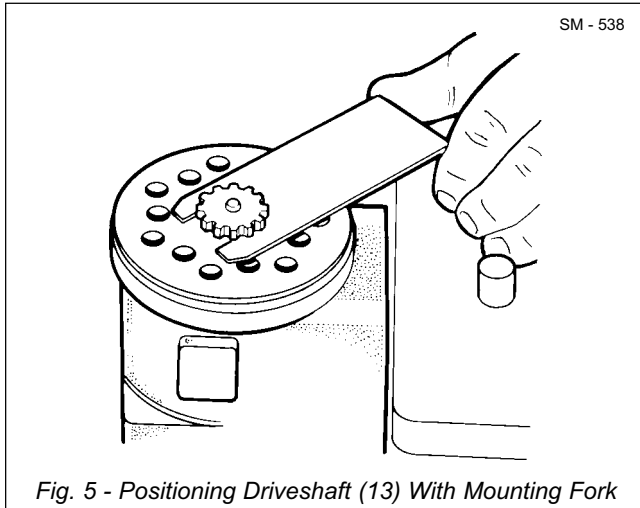
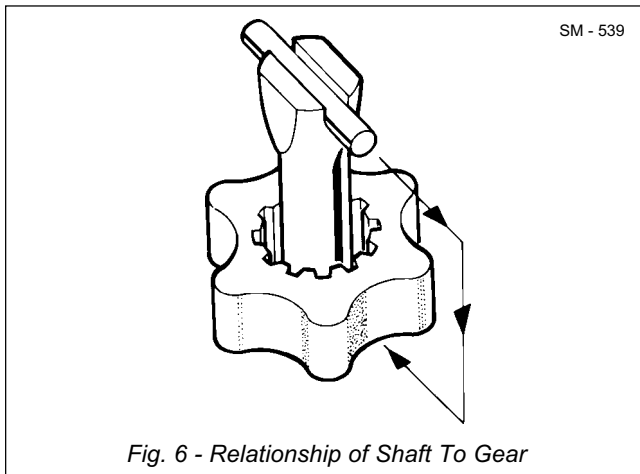

Fig. 5 - Positioning Driveshaft (13) With Mounting Fork
Fig. 6 - Relationship of Shaft To Gear
17. Screw threaded bushing (4) lightly into check valve ball (3) hole. The top of bushing (4) must lie just below the surface of valve housing (2).
18. Install new 'O' ring (15) in valve housing (2).
19. Install distributor plate (16) on valve housing (2), ensuring channel holes match the holes in valve housing (2).
20. Insert driveshaft (13) in spool (9) bore ensuring that the slot is parallel with cross pin (10).
21. Place driveshaft (13), as shown in Fig. 5, so that it is held in position with the mounting fork (shown in Fig. 8).
22. Install new 'O' rings (19) in gear rim (18). Install gear wheel (17) and gear rim (18) on driveshaft (13).
Note: Install gear wheel (17) on driveshaft (13) so that a tooth base in gear wheel (17) is positioned in relation to the shaft slot, as shown in Fig. 6. Turn gear rim (18) to line up the seven through holes to valve housing (2).
23. Install spacer (14) in gear wheel (17).
24. Install end cover (20) in position on valve housing (2). Remove mounting fork tool from assembly.
25. Install roll pin (22) in bolt (23) and install bolt (23) with washer (21) in bushing (4) hole.
26. Secure end cover (20) with remaining washers (21) and bolts (24). Tighten bolts (23 & 24) to a torque of 30 Nm (22 lbf ft).
27. Turn valve housing (2) in vice and install seal ring (1) in valve housing.
28. Plug valve housing (2) ports to prevent ingress of dirt prior to installation.